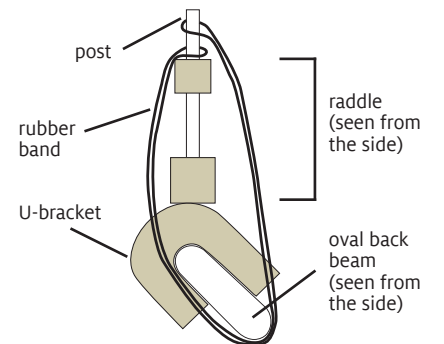

FIGURE 3: ATTACHING U-BRACKETS
3. Set the posts of each U-bracket into the holes for the machine screws, with the longer sides of the bracket on the same side of the raddle (Figure 3).
4. Place the brackets and raddle onto the rear oval beam of your Wolf loom, with the shorter end of the U-bracket at the back of the loom (Figure 3).